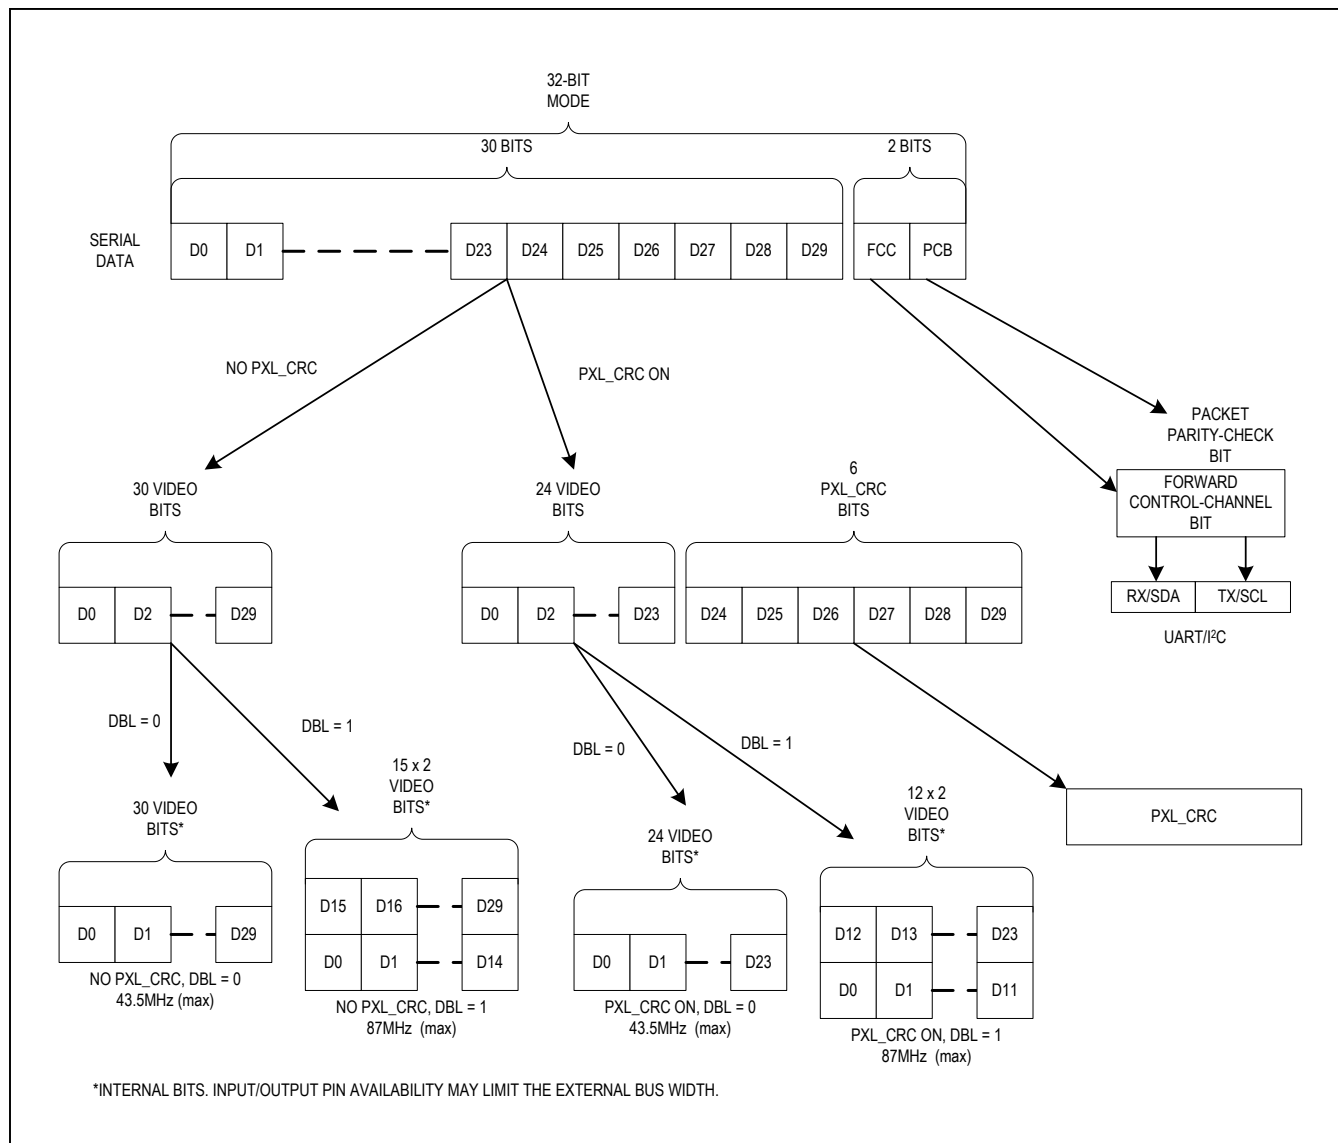

Figure 15. 27-Bit High-Bandwidth Mode Serial-Data Format
- 27-Bit High-Bandwidth Mode (Figure 15)